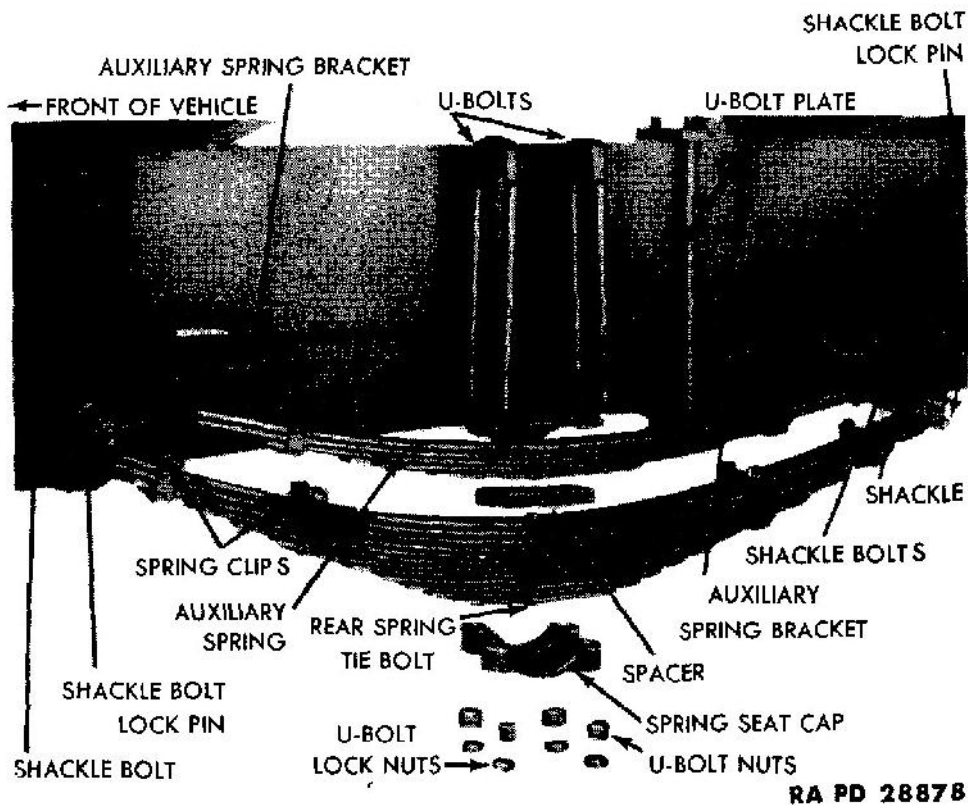

Figure 63 — Rear Spring Assembly
b. **Installation.** Place the axle in position under the vehicle with a roller jack, making sure that each rear spring tie bolt is entered in the hole in the spring seat (fig. 59) on the axle housing. Drive each rear spring U-bolt into position and install the rear spring seat cap (fig. 63) on the U-bolts at each spring. Install the nuts on the U-bolts to secure the axle to the rear springs. Pull the shock absorber arm and bracket into position on the axle and install the nuts on the U-bolts to secure the shock absorber bracket to the axle. Place the brake plate assemblies in position on the axle housing. Place the baffles in position on the brake plates and install the six bolts in each brake plate. Connect the hydraulic brake line to the connection at each rear brake plate (fig. 71). Bleed the rear brakes (par. 136 b). Install the wheel and drum assemblies (par. 127 b). Install the axle shafts (par. 115). Install the two U-clamps on the rear universal joint to connect it to the propeller shaft. Remove the roller jack from under the axle and lower the vehicle.
a. **Removal** (fig. 63). Remove the nuts from the two U-bolts which secure the rear spring to the rear axle. Drive the U-bolts up until they are free of the spring. Remove the auxiliary spring and spring pad. Remove the nut from the lock pin which secures the lower shackle bolt to the shackle. Drive out the lock pin, using a brass drift. Remove the grease gun fitting from the shackle bolt and remove the shackle bolt with a suitable puller. Remove the shackle bolt from the bracket and spring and spring eye at the front of the spring in the same manner as outlined above.
b. **Installation** (fig. 63). Place the spring in position on the axle, making sure the spring tie bolt is entered in the hole provided in the axle (fig. 59). Line up the spring eye with the spring shackle and drive the shackle bolt through the shackle and spring eye, making sure the groove in the shackle bolt lines up with the hole for the lock pin in the shackle. Drive the lock pin into the shackle and secure it with a lock washer and nut. Line up the spring eye at the front of the spring with the bracket and install the shackle bolt as outlined above. Install
the grease gun fittings in the shackle bolts. Place a spacer and the auxiliary spring on top of the main spring (fig. 63). Drive the U-bolts into position over the spring assembly and axle, and install the seat cap on the U-bolts. Install the nuts on the U-bolts to secure the spring to the rear axle.